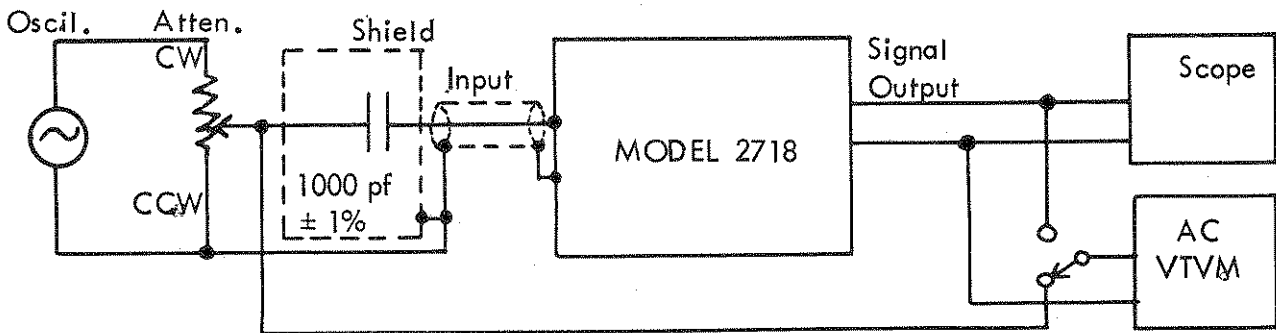

FIGURE 4.
4.3.1 Initial Connections and Control Settings - Connect amplifier and associated equipment as shown in Figure 4.